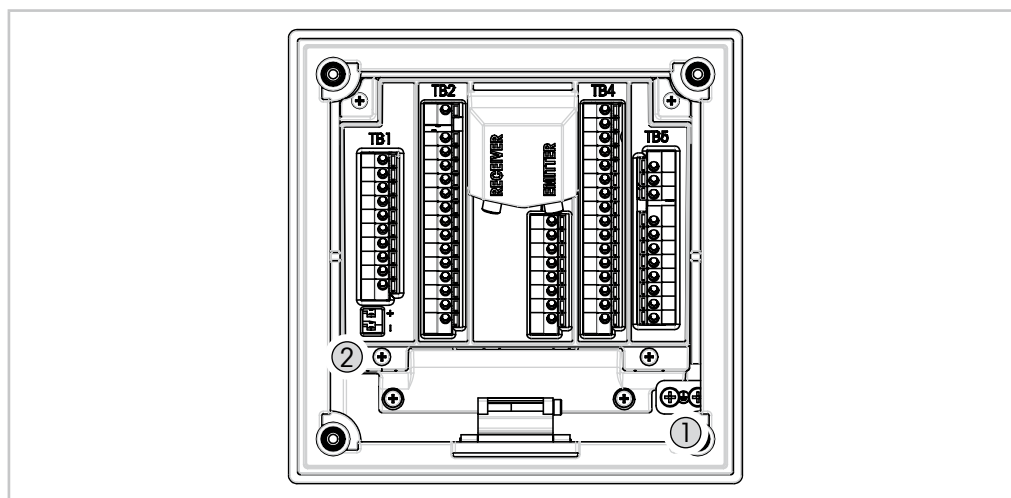

Fig. 12: Connection of protective earth to PE terminal and internal ground wiring
3. For stainless steel version: Connect protective earth to the PE terminal according to Fig. 12 on Page 31. The cross-section of the PE wire must be above 0.8 mm2 (18 AWG).
For stainless steel version: Connect protective earth to the PE terminal according to Fig. 12 on Page 31.